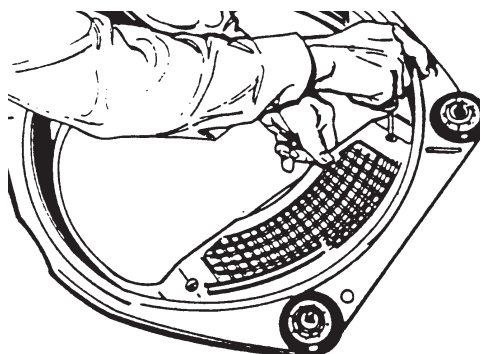

Fig. 4-40
3. Remove the two (2) screws attaching the grill assembly to the front panel and remove the grille assembly. (Fig. 4-40)